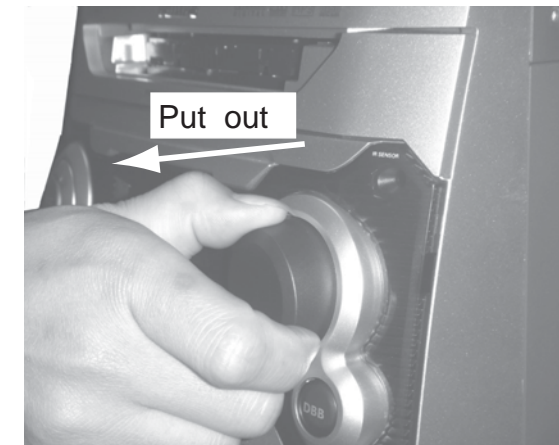

Figure 7
- 1) Remove the Volume knobs & Mic knob as stated in Dismantling the Cover Front Display in Figure 7 & 8.